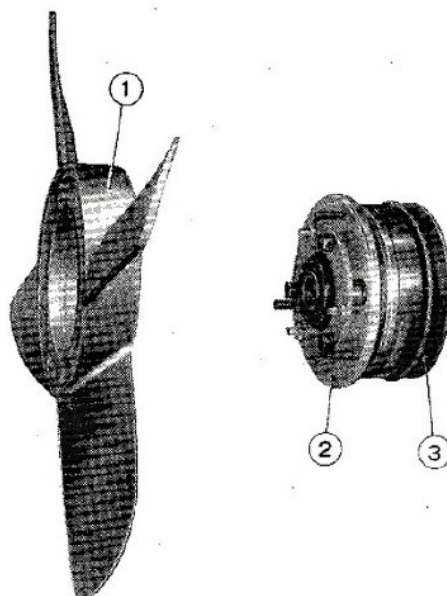

Fig. 55. - Fan and hub.
- 1) **Pulley unit**, made up of the pulley proper (3, fig. 55) complete with hub (2) for mounting on water pump